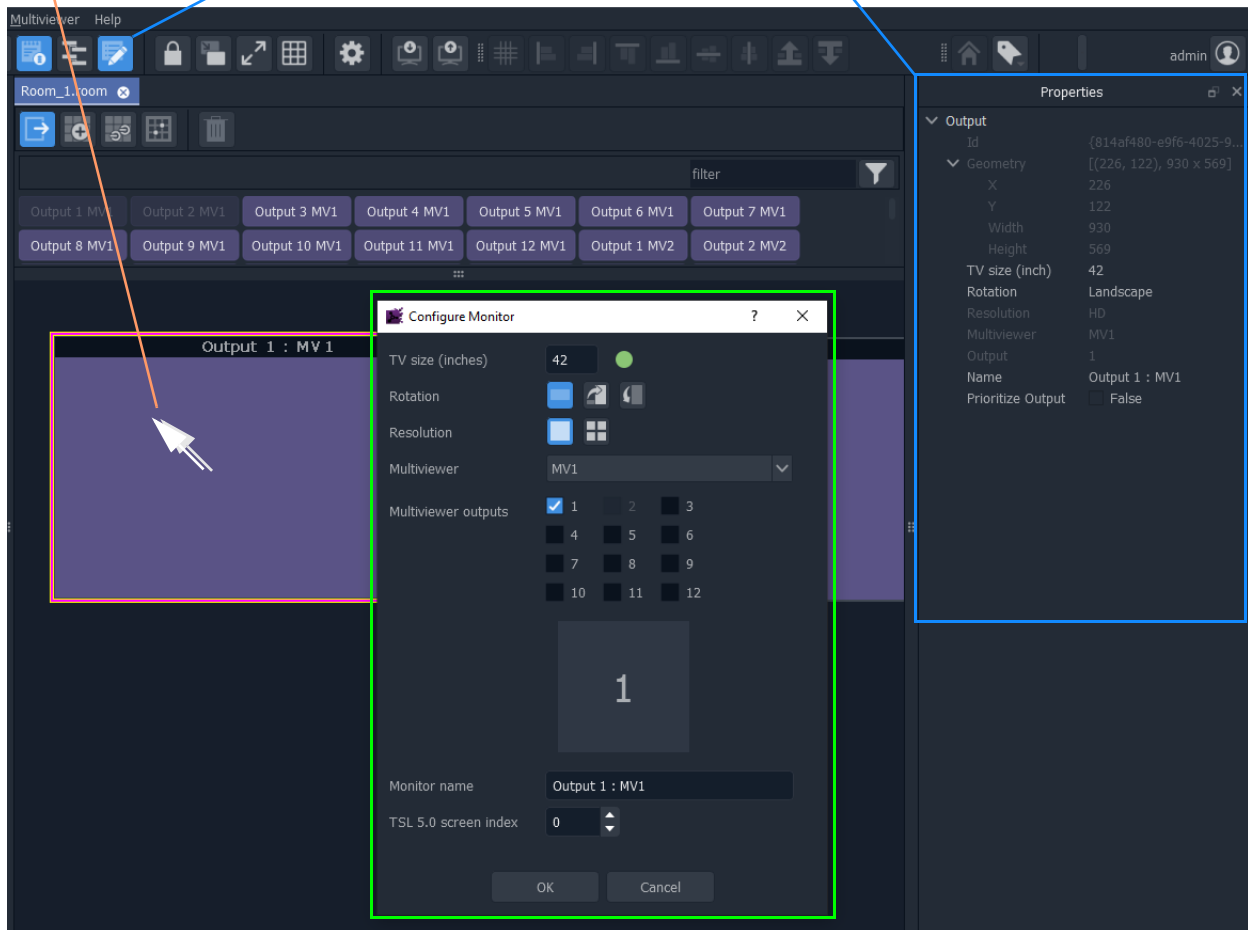

Fig. 16-15: Configure Monitor Dialog
The **Configure Monitor** dialog is shown (see Figure 16-15), where monitor properties can be changed.
- Select the 'Properties Window' button in the main tool bar. See Figure 16-15.)